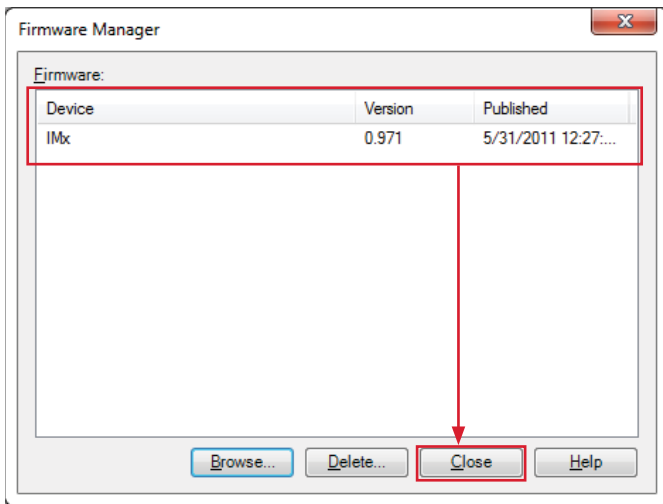

Fig. 27. When the .pkg file displays in the window, click Close.
- When you see the .pkg file in the window, you can close the window (→ fig. 27).